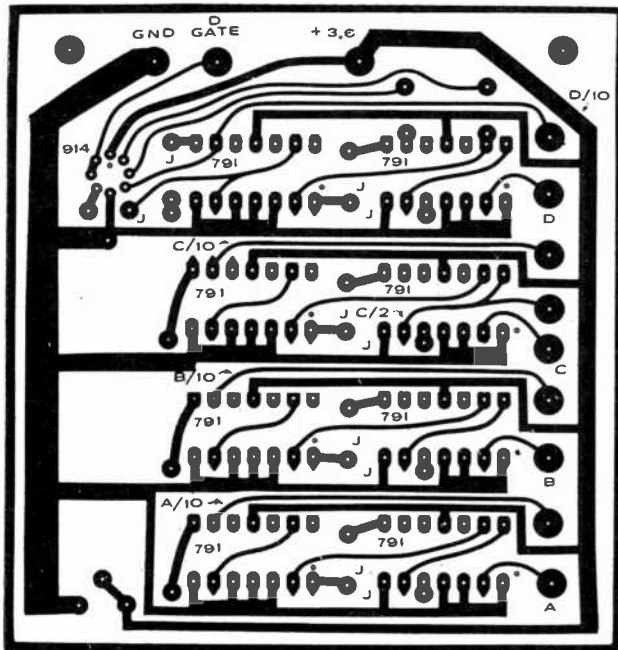
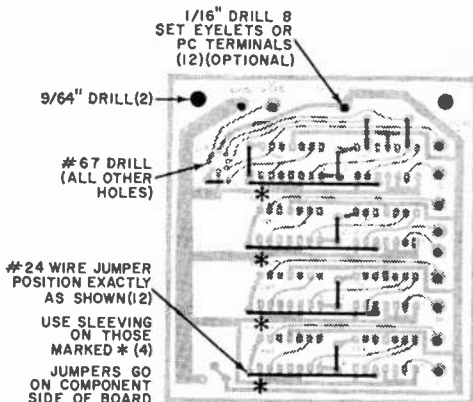
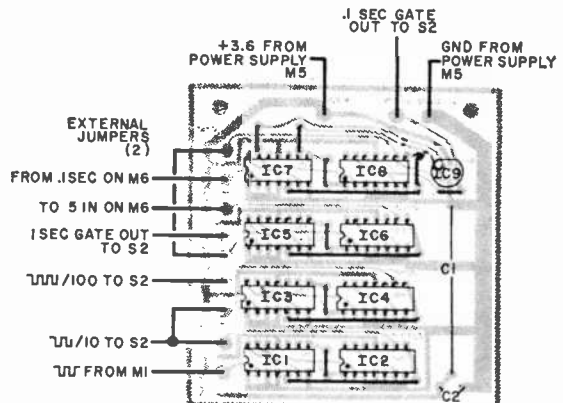

Fig. 6. Actual-size foil pattern for scaler module. This board, like all others is available etched and drilled (see Parts List).
Fig. 7. After drilling the PC board, install the 12 jumpers on the component side in positions shown.
Fig. 8. When installing in-line IC's, observe the notch and code dot. Round IC has a flat at pin 8.
**Scaler (*M2*)** The schematic for the Scaler is shown in Fig. 5. Construction will be greatly simplified by use of the circuit board whose pattern is shown in Fig. 6. Install the 12 jumpers on the component side of the board as shown in Fig. 7. The four jumpers marked with an asterisk should be insulated with small pieces of sleeving. Install the nine IC's and two capacitors as shown in Fig. 8.